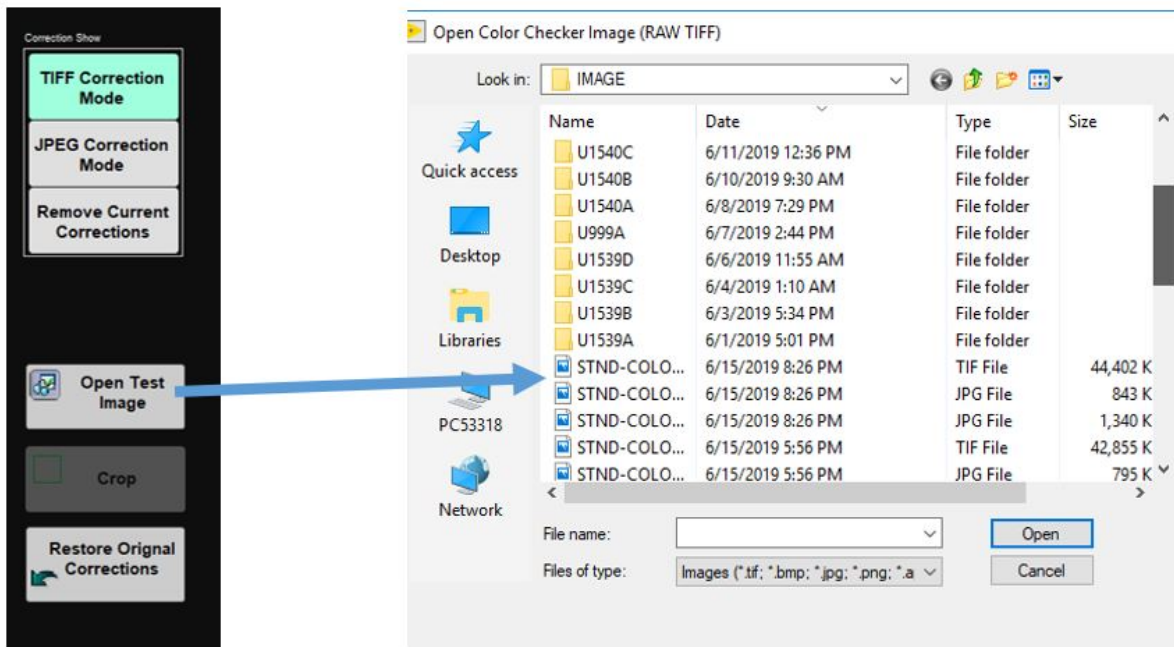

Figure 35. Selecting the test image
2. Click **Open Test Image** and navigate to the ColorChecker Standard Image just taken. Select the TIFF file (Figure 35).